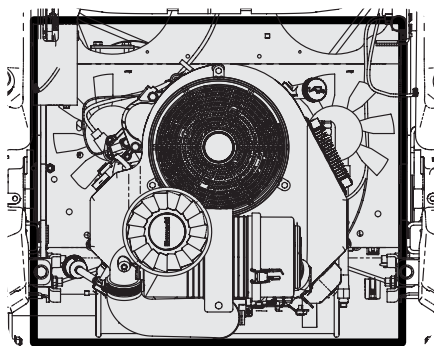

Figure 4-14
- Clean around the exhaust manifold, fuses, all wiring and harnesses, muffler pipe, muffler shield, engine intake screens and cooling fins, etc. See Figure 4-14.